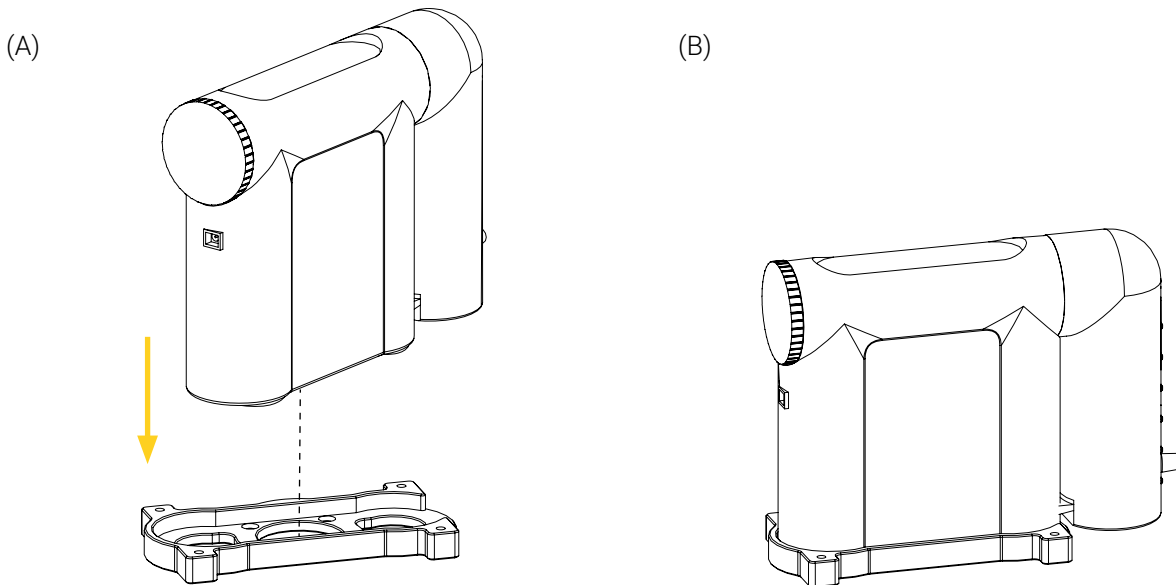
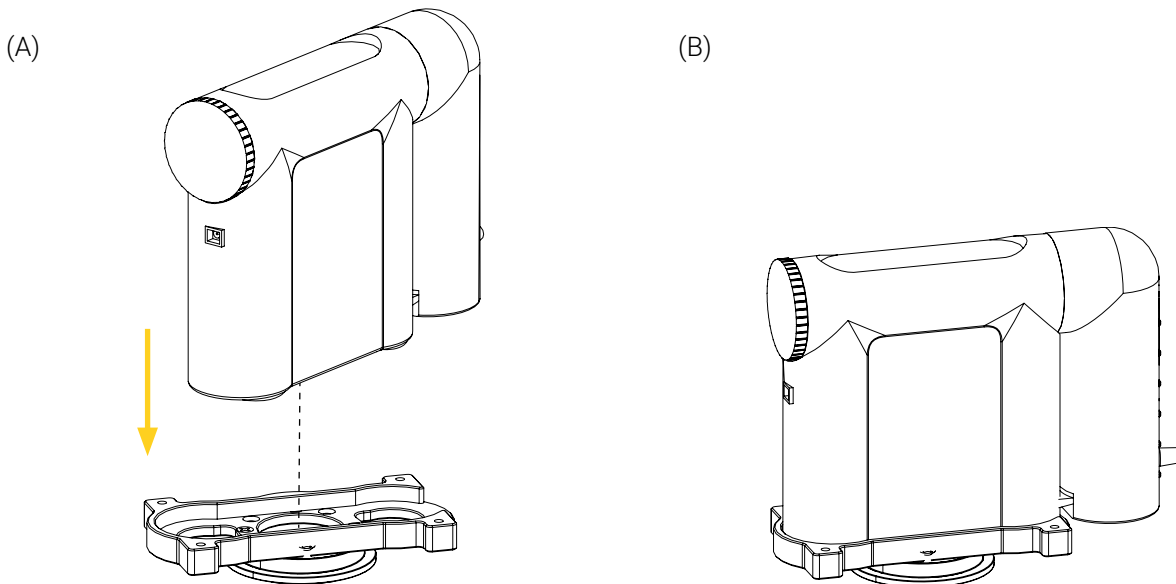

Figure 15: Installation of the medical device in the bottom plate
Figure 16: Installation of the medical device in the bottom plate with a micro disc
- Align and insert the medical device vertically in the bottom plate (Figure 15 and Figure 16). In the correct orientation, the medical device can be installed in the bottom plate with the disposable canister and tubing attached on the side.